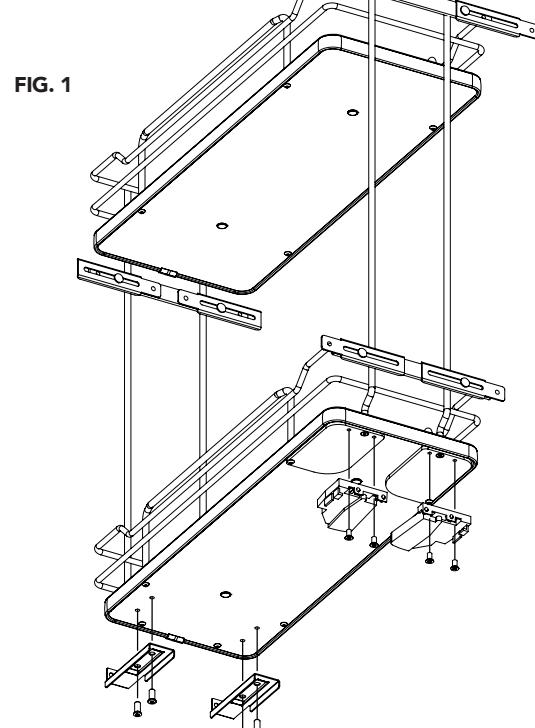

FIG. 1
- E- (4) Euro screws
- F- (4) #6x 5/8" Flat head screws
- G- (4) #8x 3/4" Pan head screws
- H- (4) #6 x 1/2" Flat head screws (for door mounting)
- 1) Using the mounting template locations, pre-drill (4) holes using a 3/32" drill bit.
- 2) Secure the slide assembly to the floor of the cabinet using (4) #8x3/4" pan head deep thread screws.
- 3) Assemble release levers using (4) #6x5/8" flat head screws and rear slide catch using (4) Euro screws (Fig. 1).